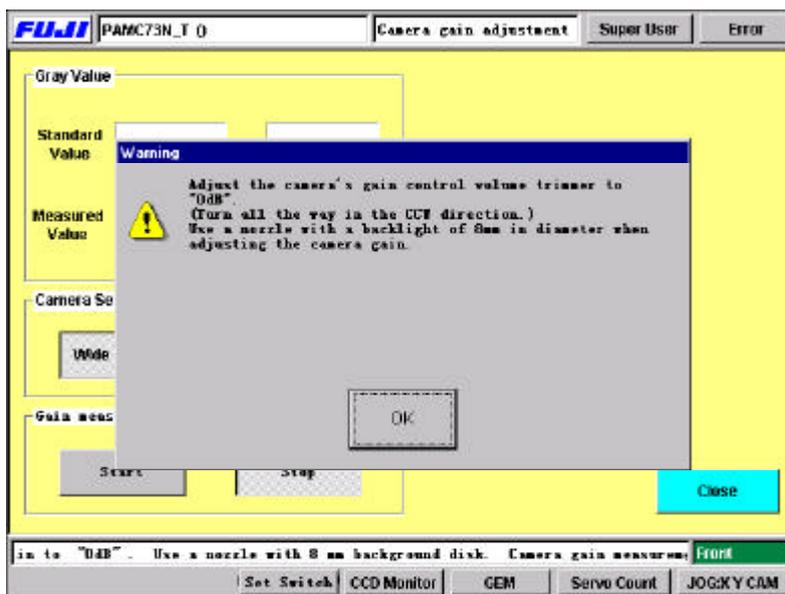

FIGURE 11
4. Press the Camera Gain button to display Figure 11.
5. As shown in Figure 11, a dialog box appears which indicates to turn the camera gain trimmer all the way in the CCW direction. After doing so, press: [OK].